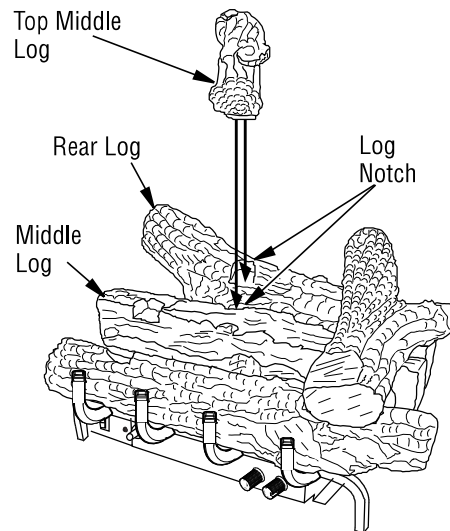

Figure 25 - Installing Middle Log
- Place the top middle log onto the rear & middle logs as shown in **Figure 25**. Make sure to match up the shape on the bottom of the top middle log with the notches in the rear and middle logs.